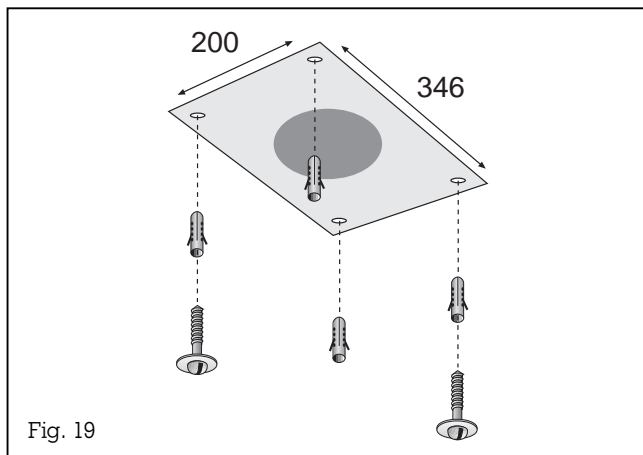

Fig. 19
2. Drill 4 holes \varnothing 8 mm for the wall plugs. Push the plugs flush with the ceiling (Fig. 19).